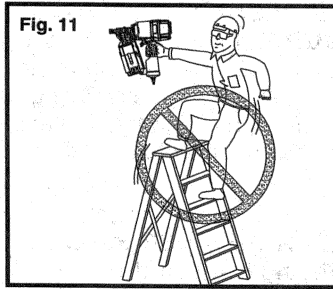

Fig. 11
18. DON'T OVERREACH. Keep proper footing and balance at all times when using or handling the tool. Fig. 11.